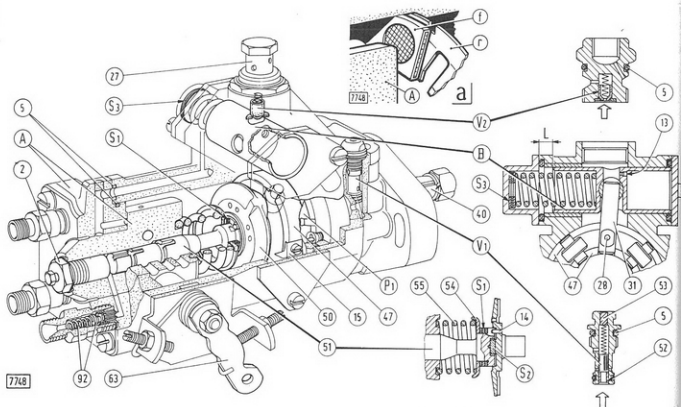

Fig. 58 - Section through Bosch Injection Pump Assembly
The Bosch fuel injection equipment (see Fig. 56) incorporates the following (see Fig. 58):—
- Automatic advance variator (B, Fig. 58), controlled by fuel pressure from the transfer pump.
- Cam plate (50, Fig. 58) is to be refitted with driving peg (14) in alignment with the drive shaft end key.